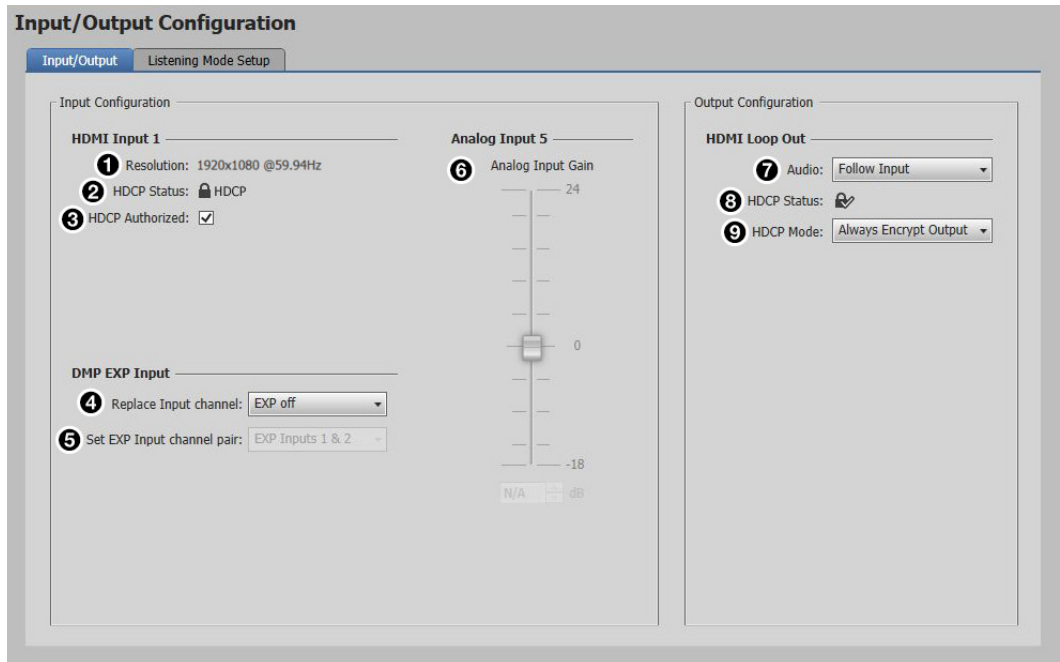

Figure 28. Input/Output Configuration Panel
The **Input/Output Configuration** panel allows the user to configure the active input and output signals (see figure 28 on the next page).
- ⑦ **Audio** — Establishes which audio stream is routed to the HDMI Loop Out. The three options are **No Audio**, **Follow Input** audio, or the **Downmix** audio.
- ⑧ **HDCP Status** — Indicates the HDCP status of the output device. The HDMI input negotiates and authenticates HDCP with the sink device, if the sink requires HDCP encryption.
- ⑨ **HDCP Mode** — Allows the user to either **Always Encrypt Output** or to **Follow Input**. When **Always Encrypt Output** is selected, the digital input reports as an HDCP authorized sink to a source. For source devices that require encryption, enable the **HDCP Authorized** checkbox (see figure 28, ③, on the previous page).